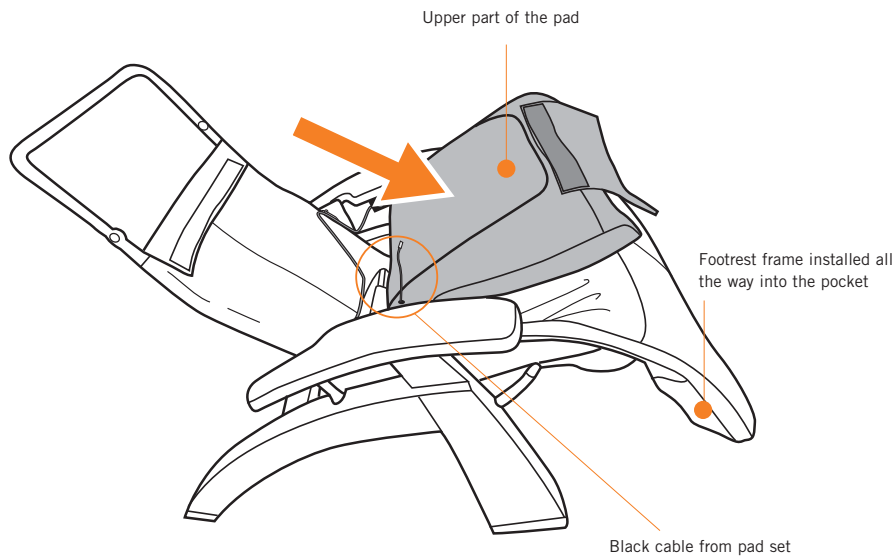

Fig.7
11. Slide the body pad onto the footrest frame, making sure the frame slides into the pockets on the bottom corners of the pad (Fig.7).
12. Fold the upper part of the pad forward onto the seat (Fig.7).